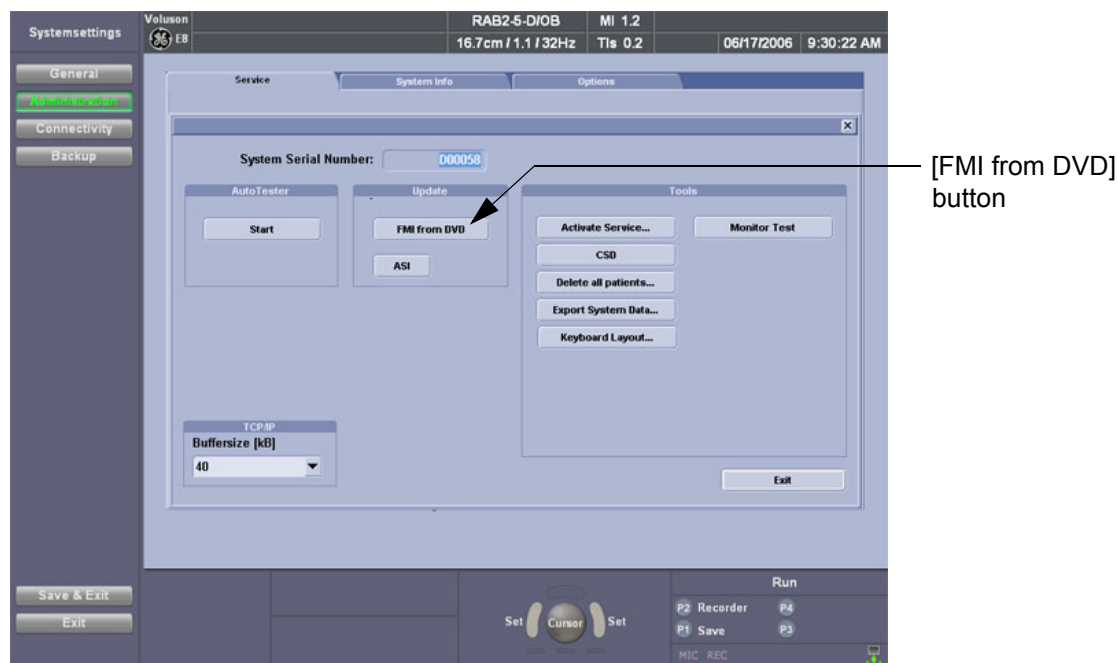

Figure 8-5 Service Tools
- 9.) Click the FMI FROM DVD button (see: Figure 8-5 on page 8-7) for updating the System Software.